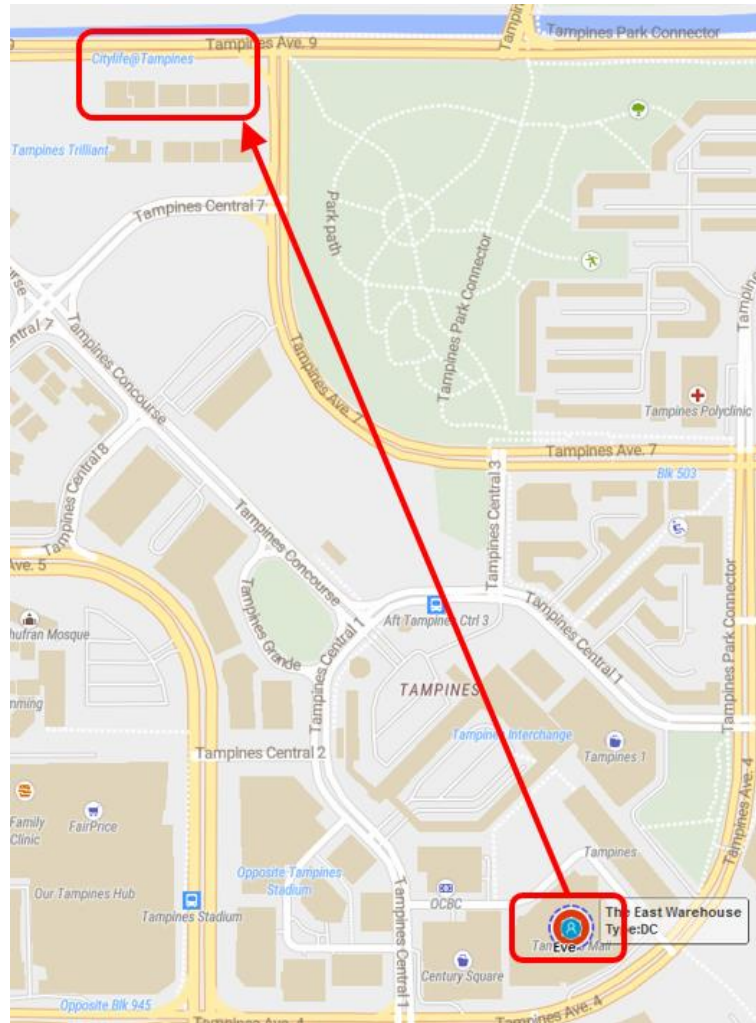

Figure 48: Adjusting the Location of the East Warehouse
- ✓ Figure 48 shows the new location of The East Warehouse = Citylife at Tampines.